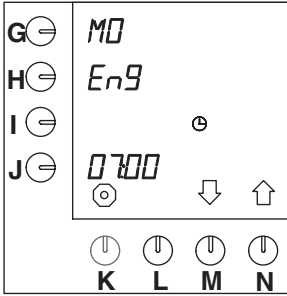

Fig. 30 Language setting
- After 10 seconds the default setting "EnG" appears flashing beside the programming key (fig. 30).